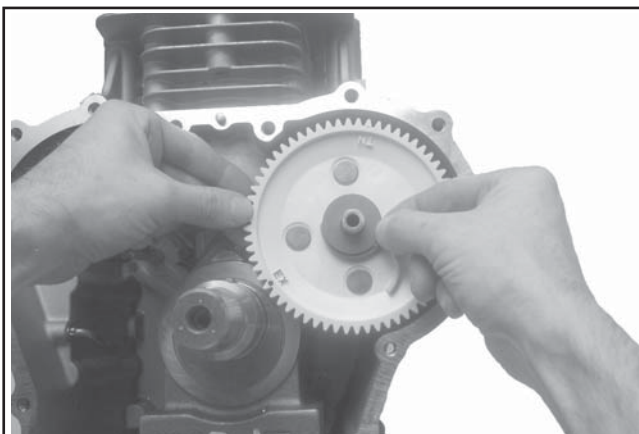

Figure 10-30. Installing Exhaust Cam Gear.
5. Lift the exhaust cam lever and install the exhaust cam gear with assembled ACR onto the cam shaft, engaging the slot with the upper drive pin. Rotate the gear and shaft so the **EX** timing mark on the cam gear is in the 8 o'clock position. Install the thrust washer onto the cam shaft. See Figure 10-30.